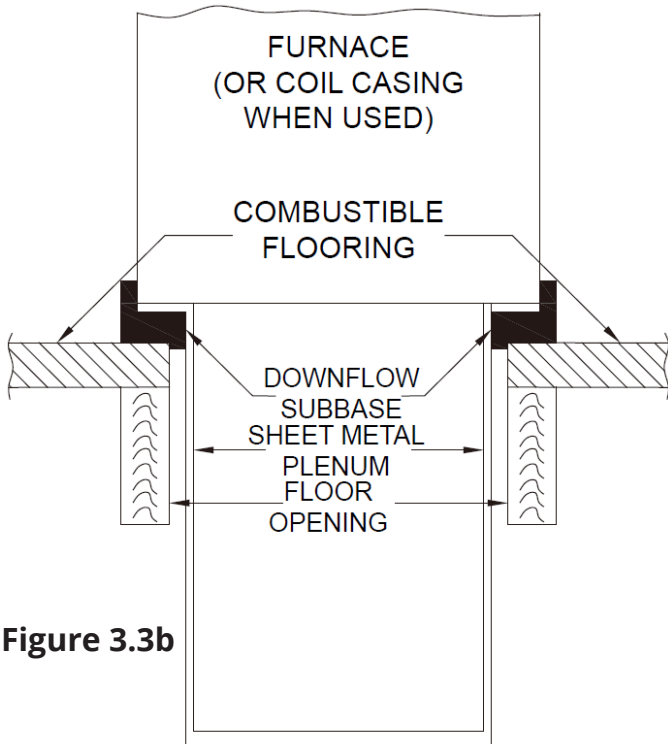

Figure 3.3b
4. If a downflow subbase is used, install as shown in Figure 3.3b. If Coil Assembly or Coil Box is used, install as shown in Figure 3.3c.